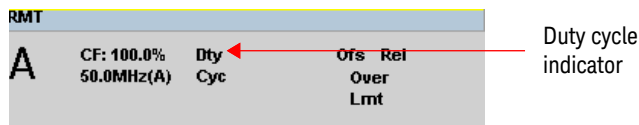

Figure 3-18 Duty cycle indicator
- 7 Press  key to complete the duty cycle entry. The **Dty Cyc** indicator is displayed as shown in Figure 3-18.